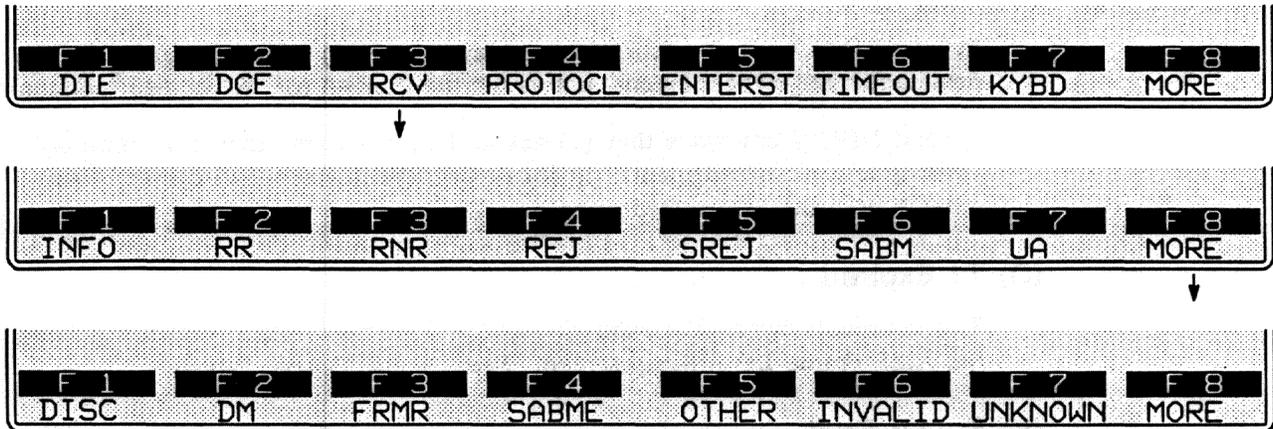

Figure 33-15 *INVALID* and *UNKNOWN* are frame types for *RCV* conditions.
4. *Type invalid.* RCV conditions can detect frames that are invalid “types”—the control field is missing, for example, or the I-field is missing in an I-frame. The Protocol Spreadsheet entry for this condition is RCV INVALID, and the softkey sequence is illustrated in Figure 33-15.
5. *Type unknown.* A frame may be valid in all respects but have a control field that indicates a nonstandard frame type. Such a frame may be matched by a *RCV UNKNOWN* condition (Figure 33-15).